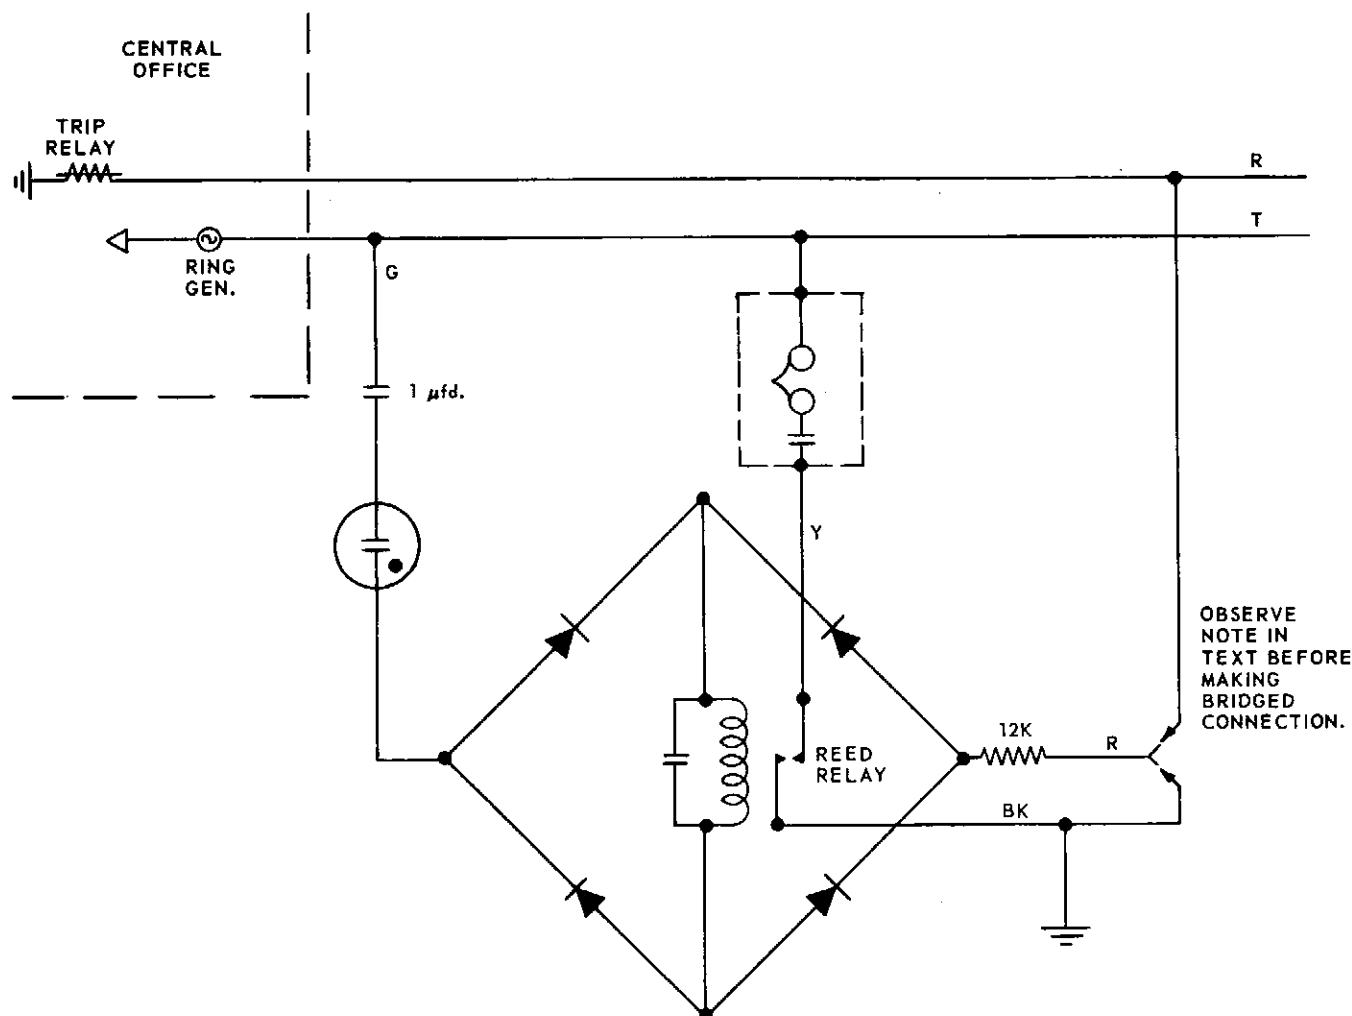

Figure 2. Schematic Diagram, TDD-3A1 Ringer Isolation Relay at Tip Party Station.
1.01 This section provides installation instructions for the Orbit Industries model TDD-3A1 ringer isolation relay, and has been reissued and retitled to cover the latest model of the device, to clarify its usage, and to correct the central office wiring shown in Figure 2. Significant revisions are noted by marginal arrows.
2.02 A schematic diagram of the TDD-3A1 ringer isolation relay is shown in Figure 2. The gas in the series tube ionizes when ringing potential is applied to the line. Alternating current conducted by the tube is rectified by the diode bridge and applied to the coil, where the flux thus generated actuates the contacts of the reed relay. The capacitor in parallel with the coil prevents relay chatter. The series capacitor prevents false operation from d-c test potentials in excess of the tube ionization value. The series resistor is a current-limiting device to protect the gas tube.